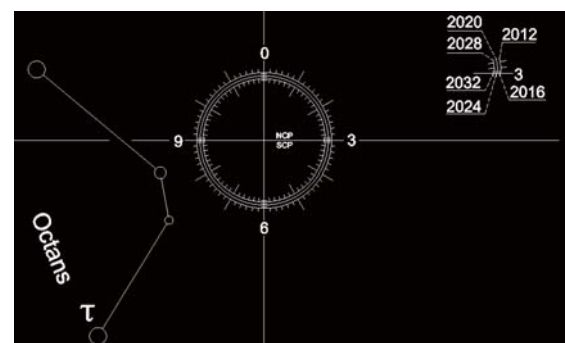

Fig 28
3. See through eyepiece the pattern should be oriented as shown in Fig 28. If the pattern is rotated, please refer to "**Appendix I: Calibrate the Polar Scope**"